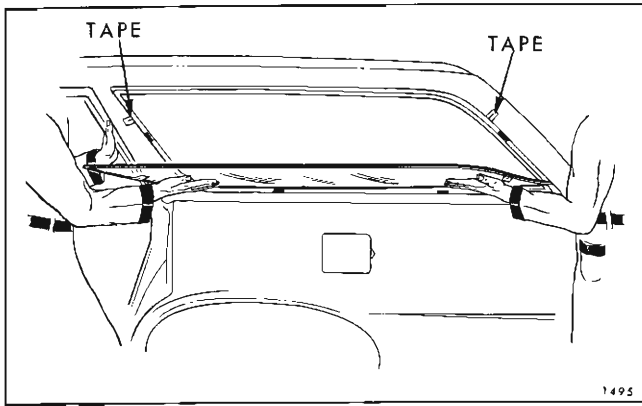

Fig. 2E39—Rear Quarter Window Installation
2. Secure one end of steel music wire to a piece of wood that can serve as a handle. Insert other end of wire through caulking material at a lower corner of quarter window and secure that end to a second piece of wood (Fig. 2E37).